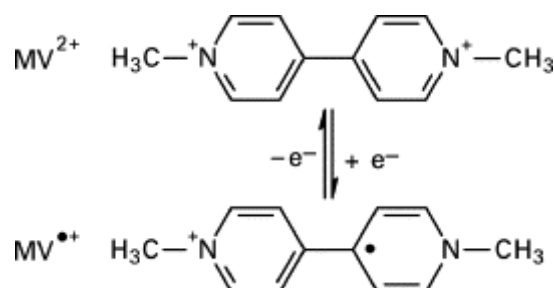

Figure 13: $MV^{2+} \leftrightarrow MV^{\bullet+}$
Methyl Viologen (MV) is also known as paraquat. It is used as a herbicide, but due to its toxicity for humans and scientific studies showing links between methyl viologen and Parkinson's disease it has lost popularity. Methyl viologen's toxicity is based on its RedOX chemistry. The reduction of the colorless ion MV^{2+} leads to the blue radical ion $MV^{\bullet+}$ (see Figure 13).